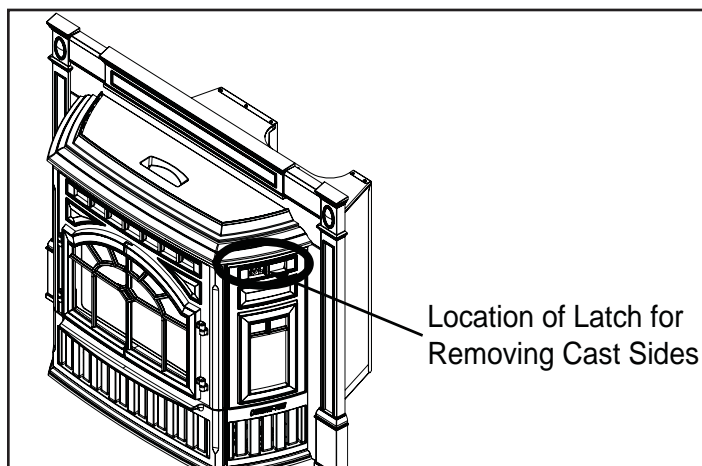

Figure 30.1
1. There is a latch on the back side of the cast side in the middle of the top opening of the cast side as indicated in **Figure 30.1**.